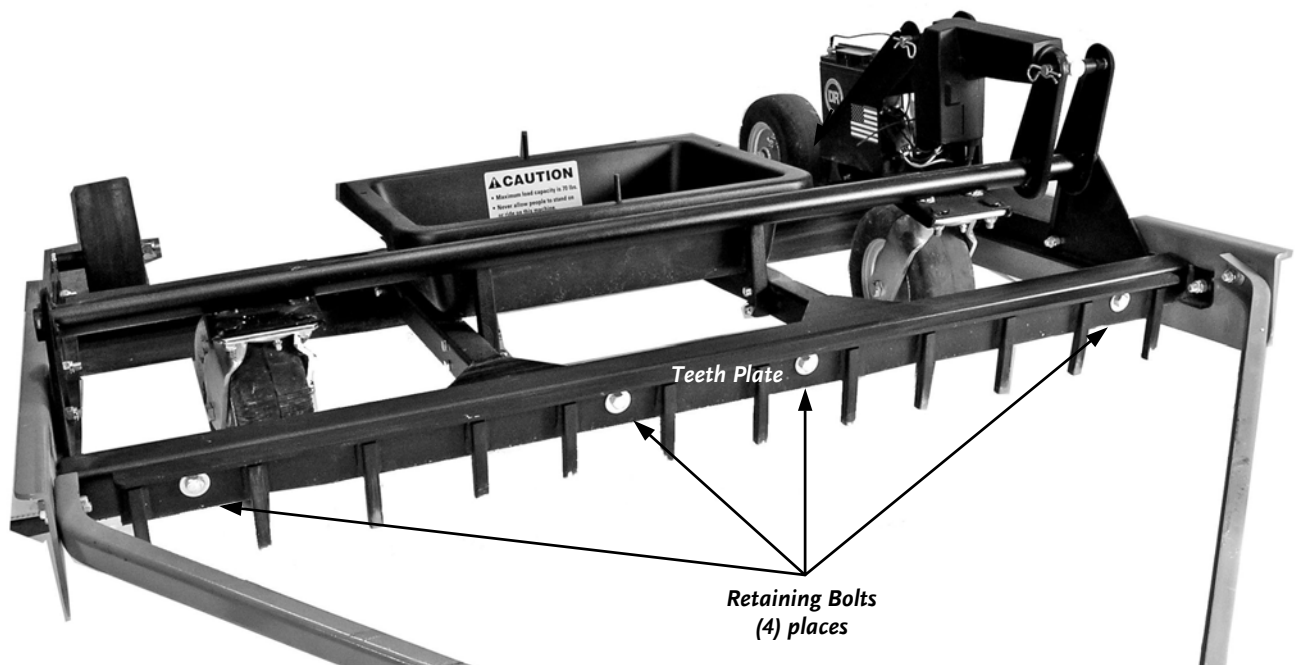

Figure 12
2. Using two (2) 9/16" Wrenches, loosen and remove the Retaining Bolts on the Scarifying Teeth Plate (*Figure 12*).
3. Turn the Scarifying Teeth Plate over and reinstall with the mounting hardware as shown in *Figure 12*.